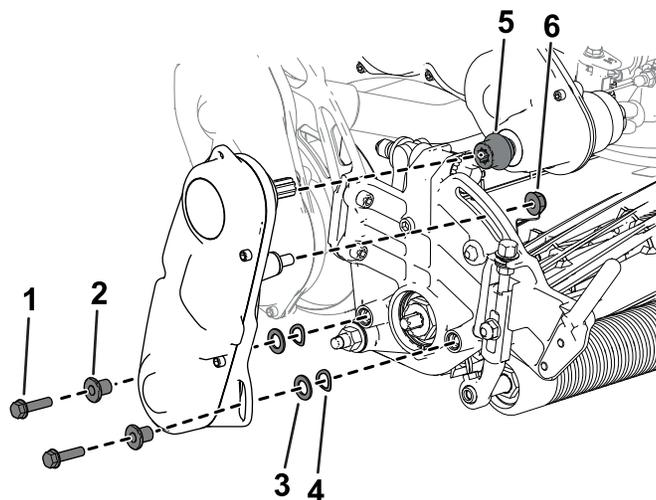

Figure 46
6. Use the previously removed socket-head screws, washers, and spacers to secure the reel-drive assembly to the cutting-unit side plate (Figure 46).
Ensure that the reel-drive-assembly driveshaft is installed to the transmission-driveshaft coupler (Figure 46).